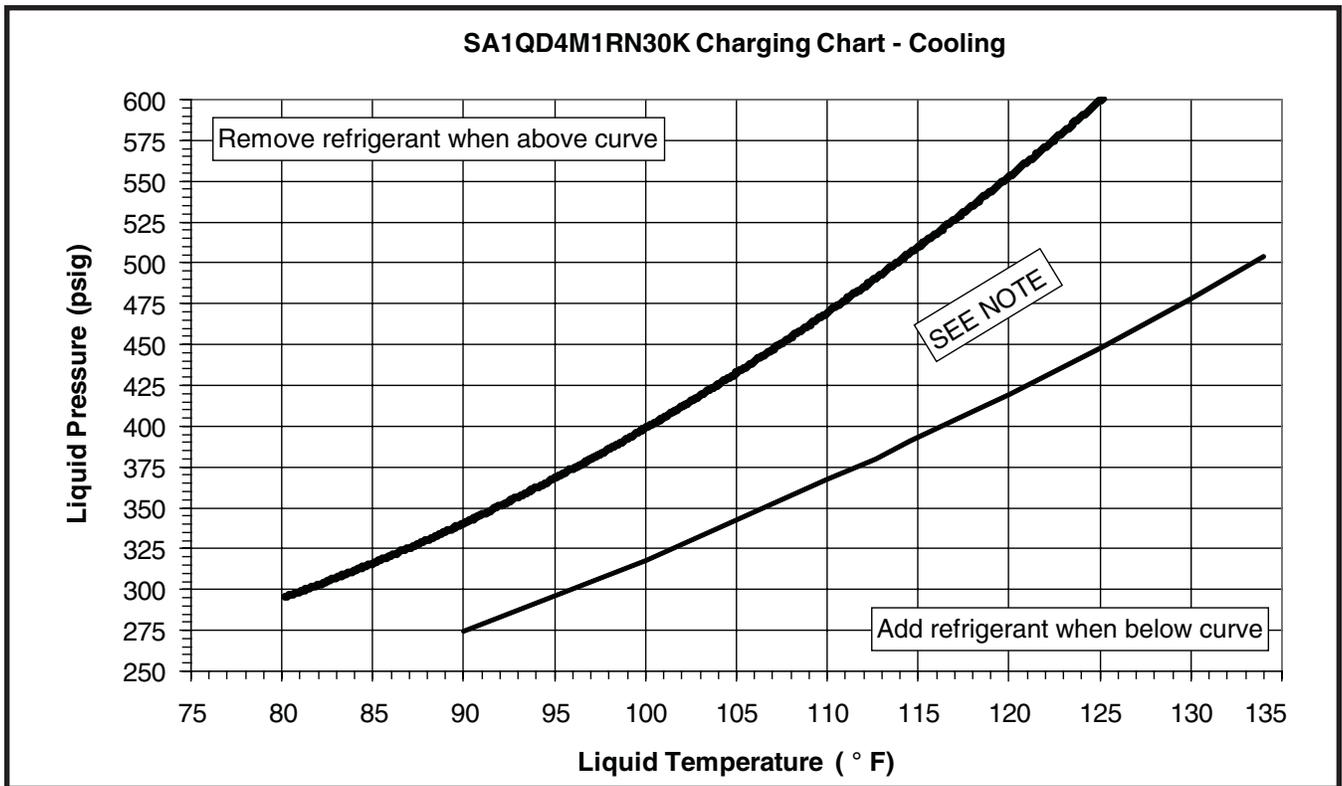
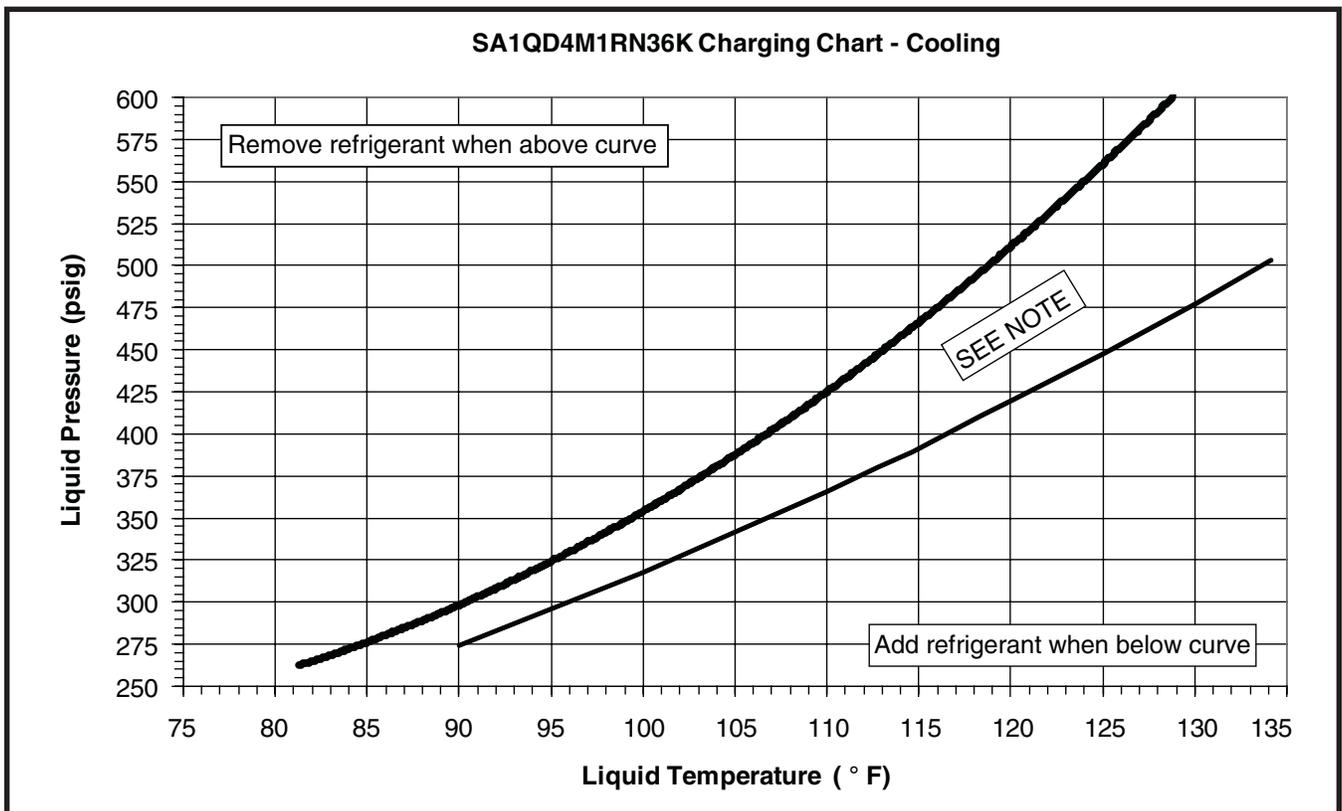

Figure 5. Charging Chart for 2.5 Ton Models (TXV Matches)
Figure 6. Charging Chart for 3 Ton Models (TXV Matches)
- The refrigerant charging charts are applicable only to matched assemblies of this equipment and listed airflows for the indoor coil. If system is matched with an indoor unit that has a restrictor, refer to Table 4 \(page 8\), Table 5 \(page 8\), & Table 6 \(page 9\) for correct system charging. If system is matched with an indoor unit that has a TXV, refer to Figure 4 \(page 9\), Figure 5 \(page 10\), & Figure 6 \(page 10\).
3. Determine the required liquid refrigerant pressure from Figure 4 \(page 9\), Figure 5 \(page 10\), & Figure 6 \(page 10\).
- Before using the charging charts, make sure the unit is in a stable operating mode. As shown in Figure 4, Figure 5, & Figure 6, the ideal system sub-cooling can vary over the range of operation. Reference the charts to determine the ideal amount of sub-cooling for a given liquid pressure. Units charged to other values will not perform at the rated unit efficiency (EER) or rated Coefficient of Performance (COP) in heating mode.